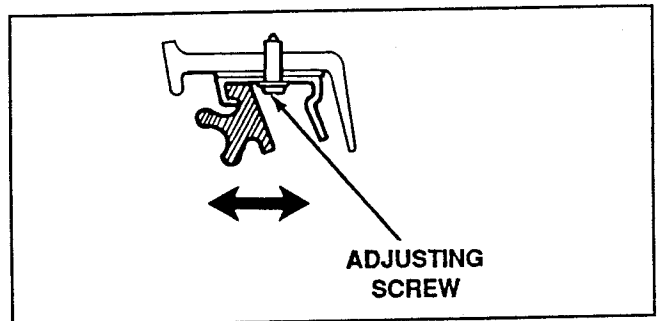

Figure 45. Rear Side Weatherstrip Adjustment
4. Tighten the screw (Fig. 45).